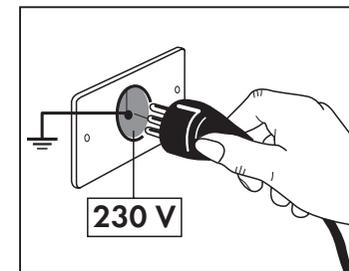

Fig. 1
- Make sure that the mains electrical installation (230 V 50/60Hz) is provided with earthing and automatic safety switch as required by the applicable regulations in force. (Fig 1)